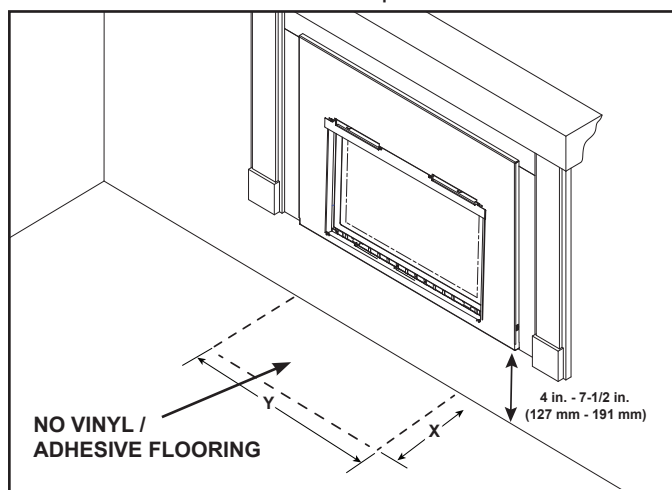

Figure 10.4 Hearth - Combustible Material Acceptable
- When the appliance is raised off the floor 4 inches (102 mm) or more, combustible flooring in front of the appliance is acceptable. Exception, no vinyl or adhesive flooring when appliance is between 4 inches (102 mm) - 7-1/2 inches (191 mm) off the floor. See Figure 10.4.